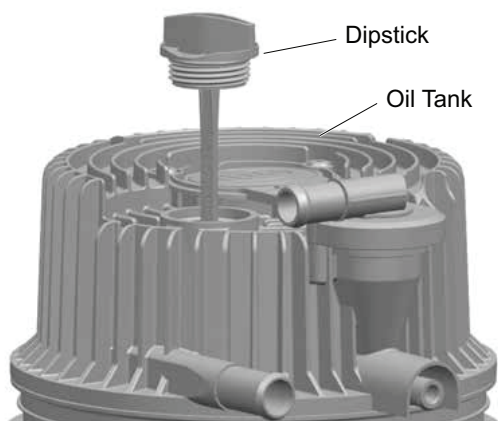

Fig. 2 Engine Oil Tank and Dipstick
2. Start the engine and let it run until it is warm (approximately five (5) minutes).
4. Remove the dipstick from the oil tank (Ref. Fig. 2).